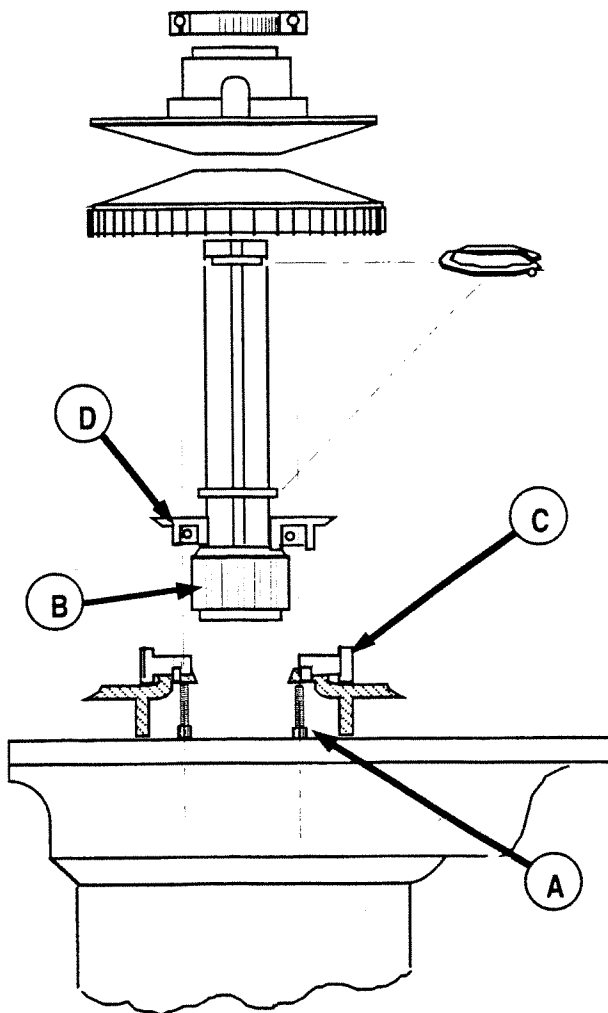

Figure 9-4. Brake Shoe Replacement
9.4 BRAKE SHOE REPLACEMENT (Figure 9-4)